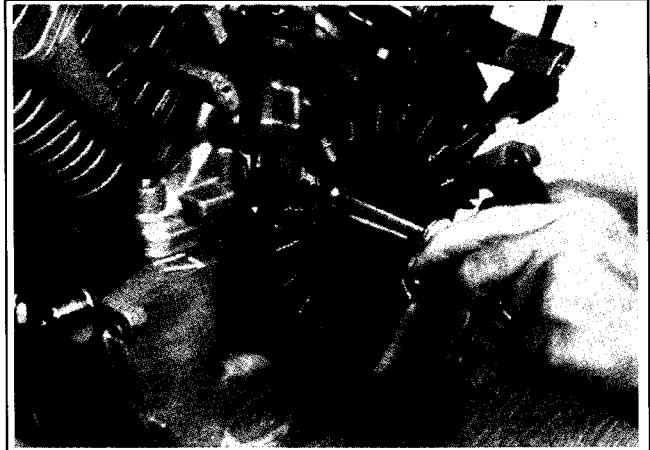

Figure 11-17. Loosely Install Stator Mounting Screws.
2. Install the two stator mounting screws but do not tighten them at this time. The stator will have to be removed later when installing the timing belt. See Figure 11-17.